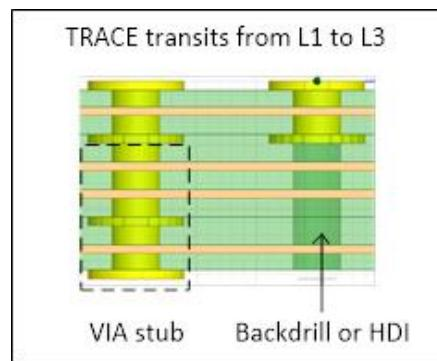

Figure 31: The Back-Drill and HDI Method
3. Keep VIA stub as short as possible. For PTH process, VIA stub is shorter if TRACE transits from top-layer to bottom-layer, compared with top-layer to L3. VIA stub can be removed by using 1) top-layer to bottom-layer routing 2) backdrill 3) HDI process as shown in Figure 31.